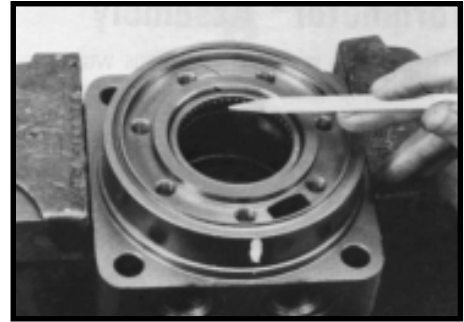
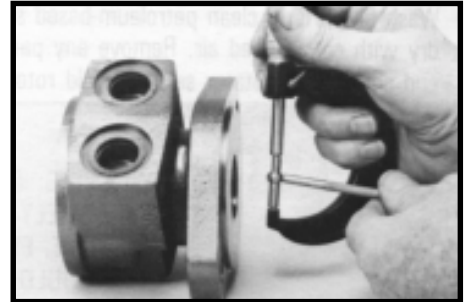

Figure 27
Figure 28
21. If the housing (18) assembly has passed inspection to this point, inspect the housing bearings/bushings (19) and (13) and if they are captured in the housing cavity the two thrust washers (14) and thrust bearing (15). The bearing rollers must be firmly retained in the bearing cages, but must rotate and orbit freely. All rollers and thrust washers must be free of brinelling and corrosion. SEE FIGURE 27. The TB Series bushing (19) or (13) to coupling shaft diameter clearance must not exceed .010 inch (.025 mm). A bearing, bushing, or thrust washer that does not pass inspection must be replaced. SEE FIGURE 28. If the housing has passed this inspection the disassembly of the Torqlink™ is completed.